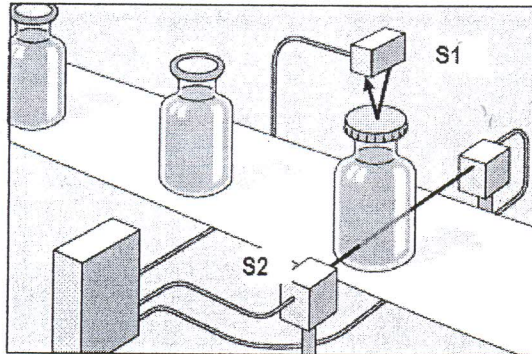

Figure 4: Bottling Cap and Liquid Detection Station
- (b) Sensor **S1** and **S2** are used in bottling workstation to detect presence of cap and liquid as shown in **Figure 4**. Based of figure below answer the following questions